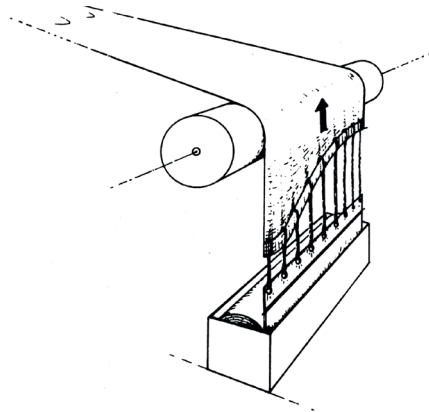

FIGURE 3. Tying new fabric to the old fabric.
7. Typically, the old fabric is used to pull your new fabric into position. Cut the old fabric just behind the seam area and punch a series of holes. Use a series of short ropes for the tie-in (Figure 3). If your old fabric is bowed, the lengths of the ropes must be adjusted so that your new fabric will be pulled onto the machine straight and true.